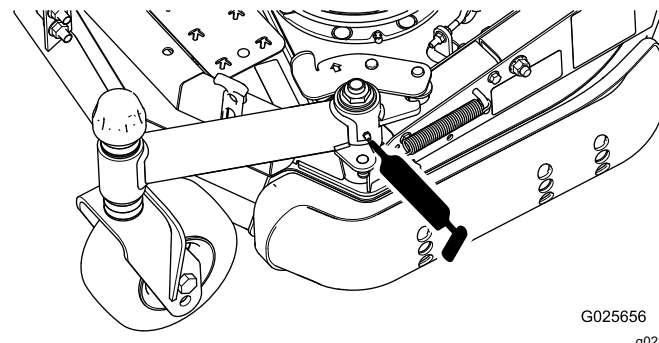

Figure 19
- Folding caster arm pivot (1) (Figure 19)